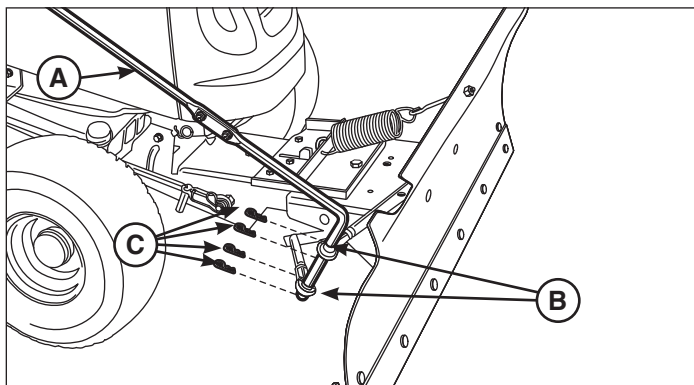

Figure 18
5. Slide the control arm assembly (A, Figure 18) through the two adjustment arm joints (B). Secure the control arm with four hair pins (C).